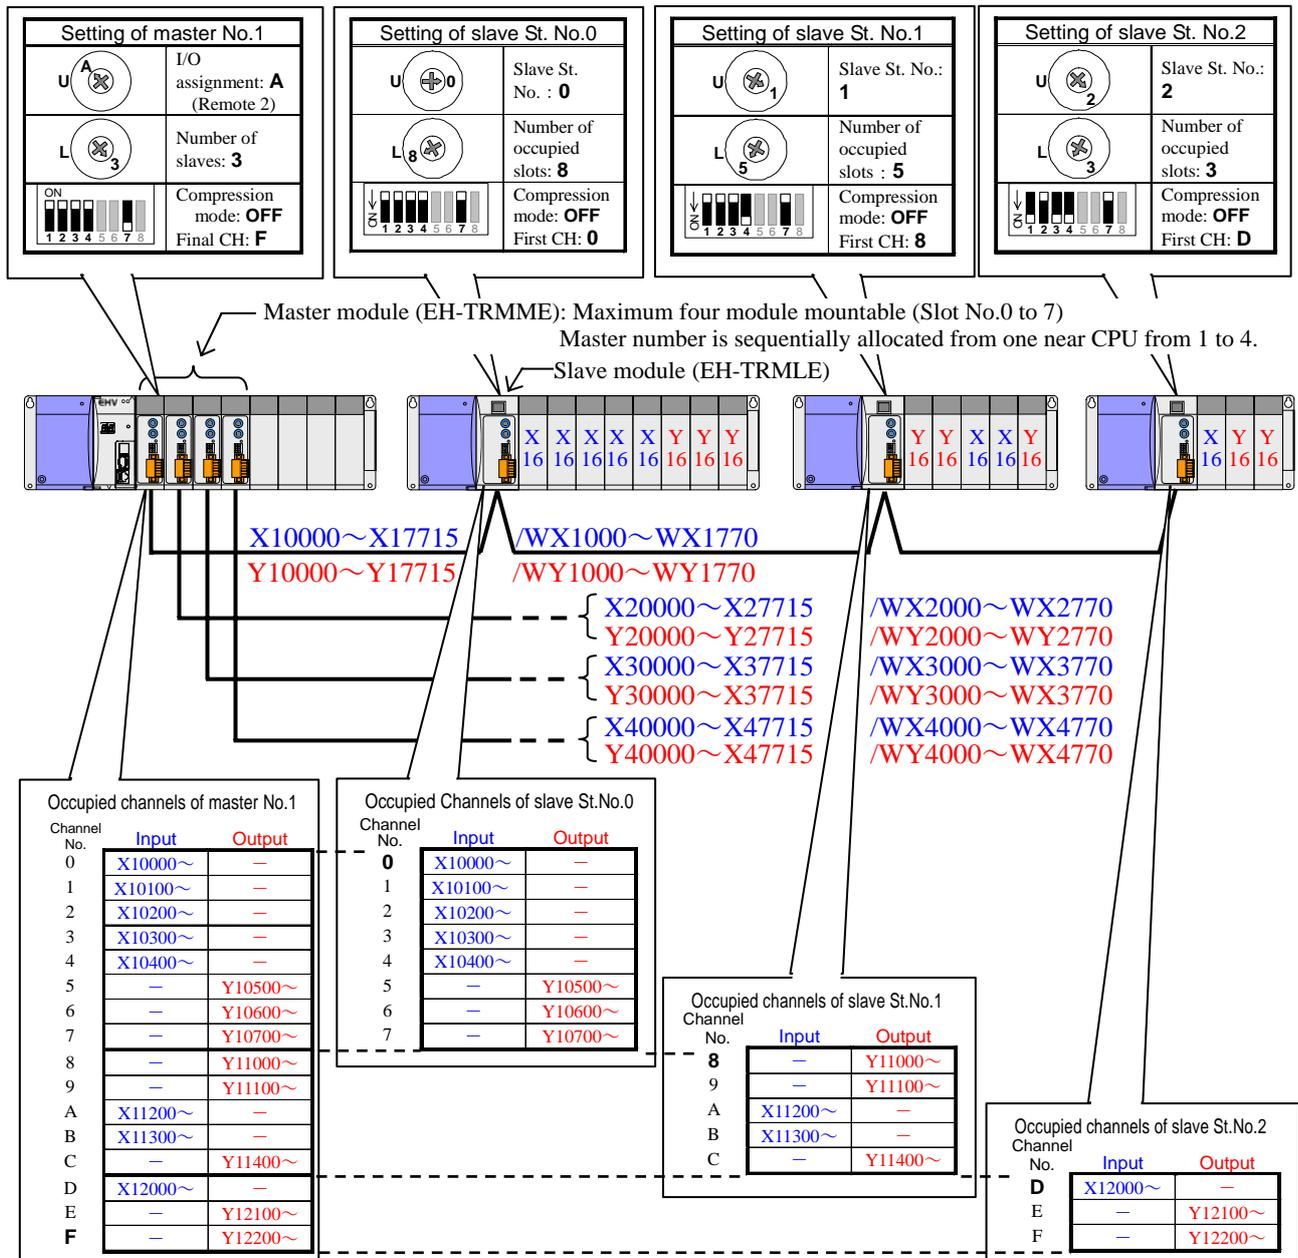

Figure 4.9 System configuration example-1 (I/O assignment of master: “Remote 2”)
Typical system configuration example that I/O assignment of master module (EH-TRMME) is “Remote 2” is shown in Figure 4.9. The final channel number is abbreviated to “Final CH.,” and The first channel number is abbreviated to “First CH” in the following figures of setting for DIP switch.
- 4) Maximum 8 slave modules can be connected to one master module. (Example of Figure4.9 is three slaves.)